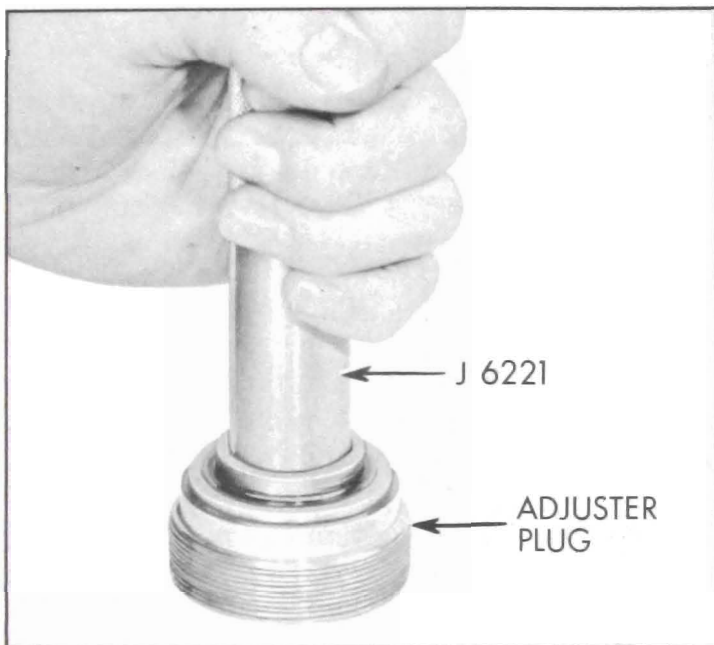

Figure 8-32—Removing Needle Bearing
5. Inspect needle bearing in adjuster plug and if rollers are broken or pitted, remove needle bearing by pressing from thrust bearing end using Tool J-6221 and discard bearing. See Figure 8-32.